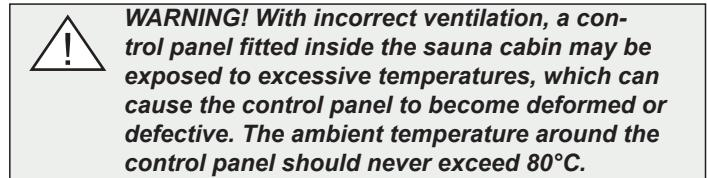

Figure 5: Safety distance / installation height, control panel
- Plan the control panel positioning (see the attached instructions for the control panel for allowable positioning). See also the Control Panel section, Figure 5).
The control panel may be placed inside a Tylö sauna room or a self-built sauna room with correct ventilation which operates according to Tylö-recommended ventilation (natural ventilation principle). Read the sections titled, Positioning the intake vent and Positioning the outlet vent in these instructions. The control panel must always be placed outside the sauna cabin if these requirements are not met. If installing the control panel inside the sauna cabin, it should be positioned with regard to safety distances and installation height, see Figure 5.